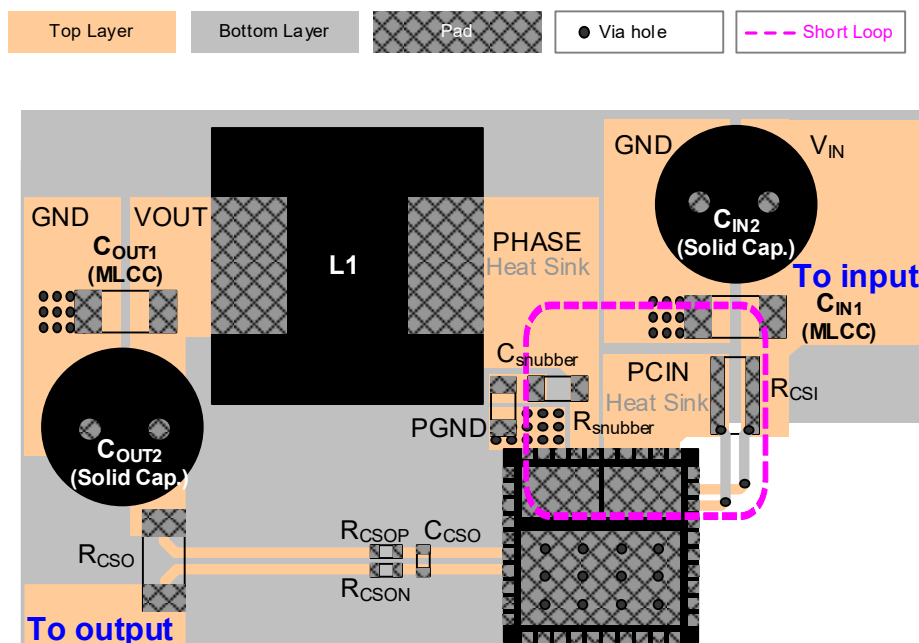

Figure 7. Recommended PCB Layout of the Power Stage
- Figure 7 is a recommended power component placement of the PWM Buck power-stage. For better EMI performance, the power loop “CIN1 → RCS1 → Internal Buck MOS → PGND to CIN1” must be as short as possible to minimize the switching noise. It is necessary to place several MLCCs (CIN1, 10 to 0.1μF/50V, X5R/X7R) close to RTQ7883A-QT to absorb high frequency switching EMI noise. For reducing the input and output voltage ripples during heavy load operation, it is recommended to add more MLCCs or solid capacitor for input and output capacitors. Moreover, the RTQ7883A-QT integrated buck power MOSFETs, it needs PCIN and PHASE PCB areas as heat sink for high-side and low-side MOSFETs heat dissipation.